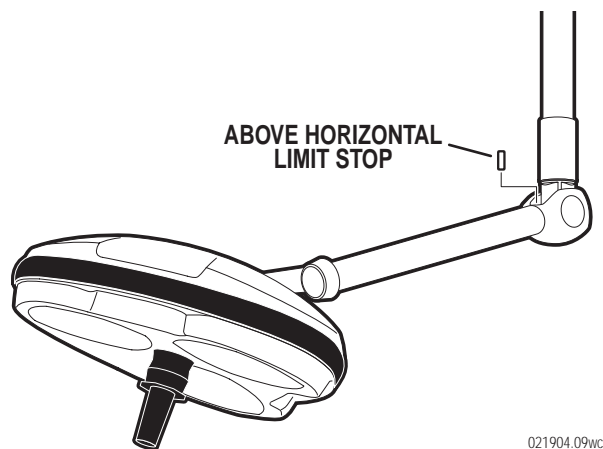

Figure 7. Above Horizontal Limit Stops
d. Pull the lighthead down and remove the Above Horizontal Limit Stops from the BOM. See figure 7.